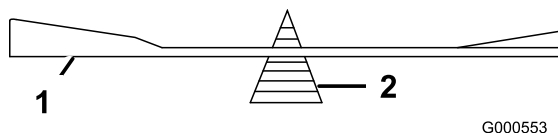

Figure 62
2. Check the balance of the blade by putting it on a blade balancer (Figure 62).